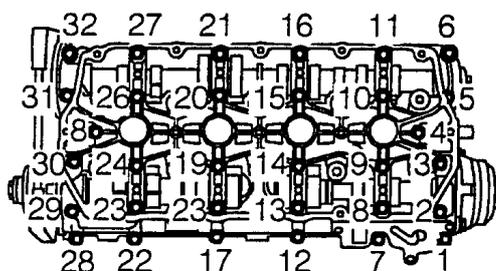

Figure 17
- Install both VVC assemblies, with special tools fitted to the camshaft carrier and retain in position as shown in figure 17 with a slave M6 bolt, then remove the clamps 18G 1770.